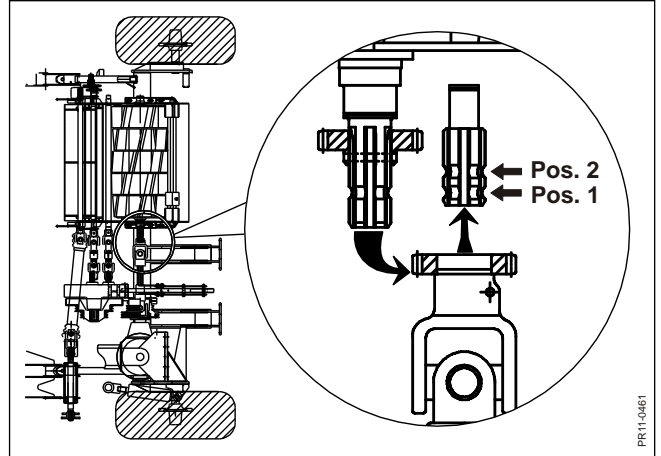

Fig. 4-23
- Fig. 4-23** The PTO drive shaft must be fixed at pos. 2 whereby the gear wheels are engaged and the rotor will rotate in the opposite direction.